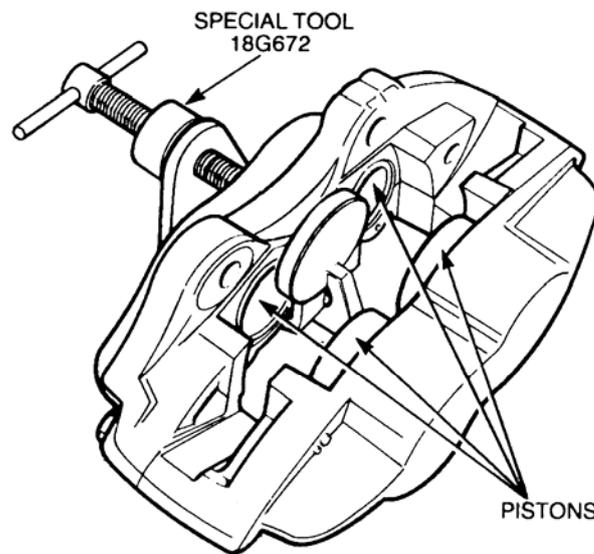

Figure 4 Piston Removal Rim Half
- b. Install special tool 18G672, to retain both pistons in the mounting flange half of the caliper (refer Figure 4).